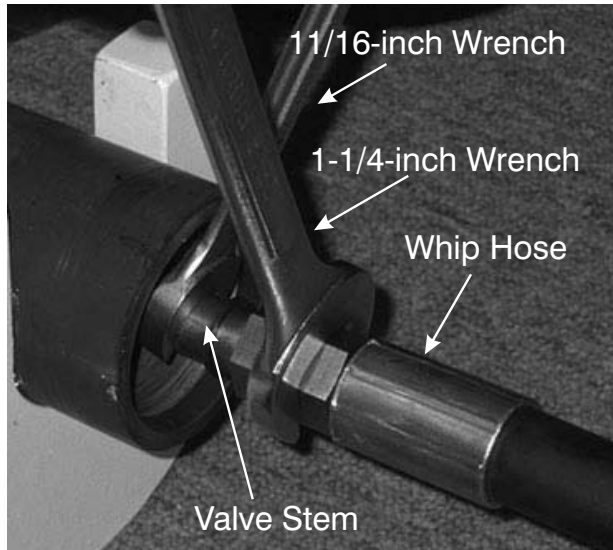
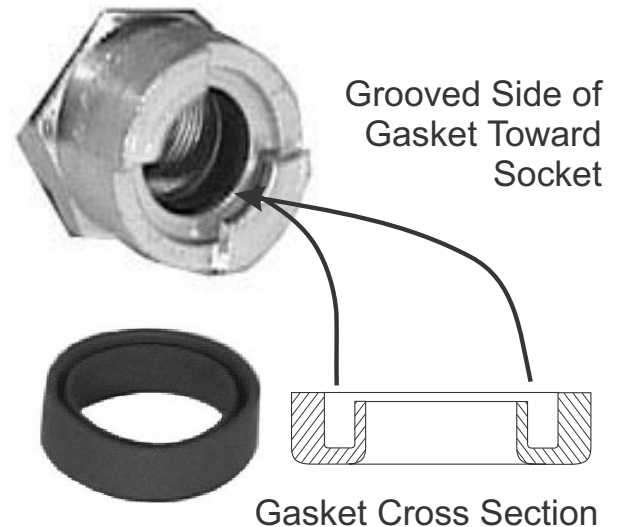

Figure 9-29. Secure the Whip Hose to the Valve Stem.
Figure 9-30. Install a new Quick Disconnect Gasket
6. Continue holding the Valve Stem in position with the 11/16-inch open-end wrench, and fit a 1-1/4-inch open-end wrench across the flats of the Whip Hose Hex Fitting as shown in Figure 9-29.
7. Tighten the Whip Hose Hex Fitting securely onto the Valve Stem as shown in Figure 9-29.
8. Install a new gasket in the Quick Disconnect (Q.D.) Fitting (11):
- If a new Q.D. Fitting (11) is to be installed, it already contains a new gasket. Proceed to step 10.
- If the old Q.D. Fitting (11) is to be installed, proceed to step 9, and install a new gasket.
9. With the grooved face of the new Gasket toward the Quick Disconnect Fitting (11), insert the new gasket into the fitting. Check that the gasket seats properly. Refer to Figure 9-30.